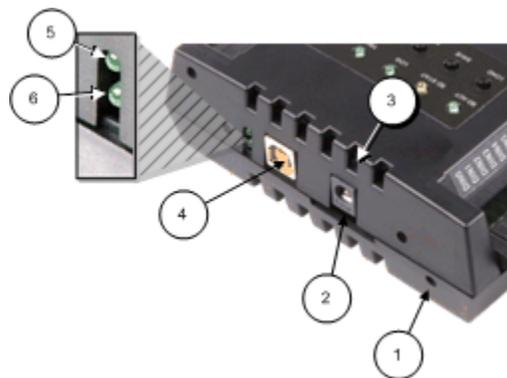

Figure 3. LGR-5329 connectors, SD card slot, LEDs, and reset button
- To power the LGR-5329 from an external power source, using the power connector, connect the 9 VDC, 1 A external power supply to the external power connector (see Figure 3 on page 11), and plug the adapter into an electrical outlet.
To connect the LGR-5329 to your system, turn the computer on, and connect a USB cable from the LGR-5329's USB connector (see Figure 3 on page 11) to either a USB port on the computer or an external USB hub connected to the computer.
- ① USB and power connectors and LEDs, SD slot, and reset button.
- ② Function buttons and LEDs.
- ③ Screw terminals and LEDs
The components indicated by ① are identified in Figure 3 and explained below.